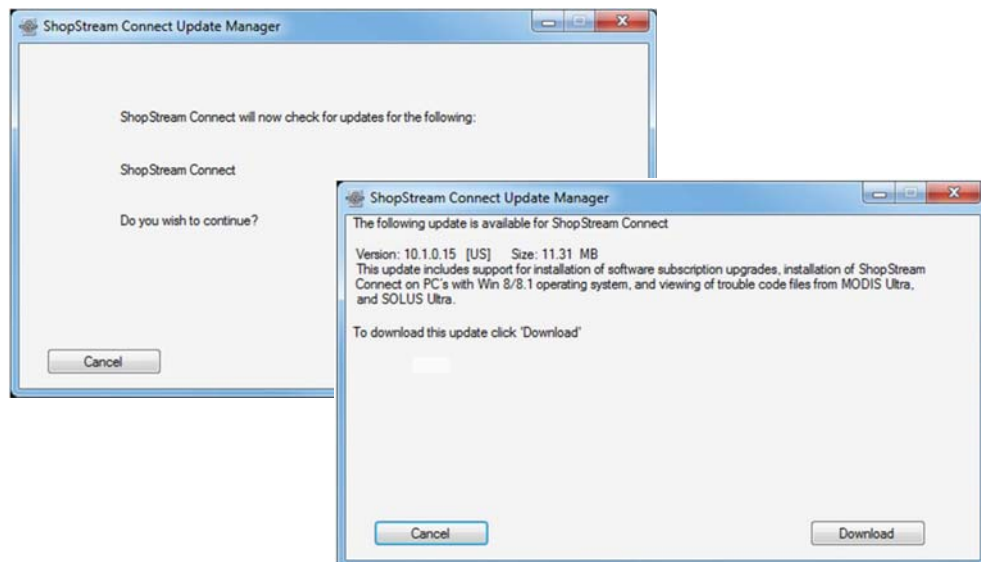

Figure 8-2
2. If updates are available, select **Next** to continue, then select **Download** and follow the on-screen instructions to complete the installation (Figure 8-2).